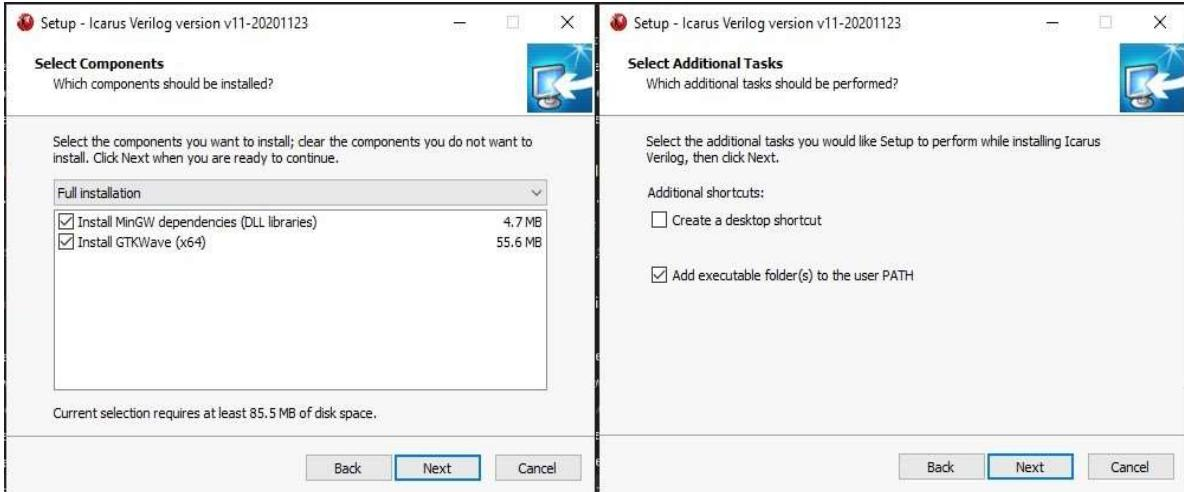

Figure 1. Go Configure Software Hub User Interface
- Be sure to add IVerilog to the PATH and let it install GTKWave (See Figure 1)